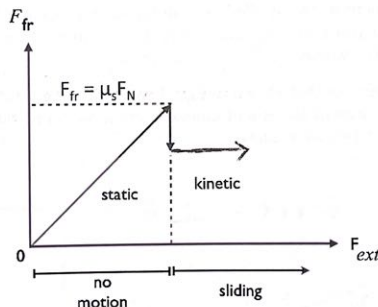

Figure 1: (a) Force of friction (F_{fr}) as a function of an external force (F_{ext}) applied to an object that is initially at rest.
For almost all objects $\mu_s > \mu_k$, since molecular bonds between surfaces form more easily in the static case. This means that greater force is needed to start an object in motion than to keep the object it in motion. Graphically, this effect is shown in Figure 1: As a horizontal applied force F_{ext} is increased on a resting object, the static friction force increases linearly until the applied force F_{ext} equals $\mu_s F_N$. After this point the object "breaks away" and the frictional force falls to its kinetic friction value.
- Sketch a force graph similar to that shown in Fig. 1 that semi-quantitatively describes the experiment you just performed. Label the regions of static and kinetic friction on your graph and specify the value of the applied force where the crate first begins to move.